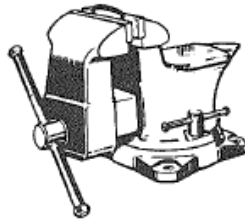

FIGURE 4
1. Insert one link lengthwise in vise (Figure 4). Be sure that side opposite weld lies completely below surface of vise jaw (about 1/3 of link). This prevents nicking or cutting lower part of link.